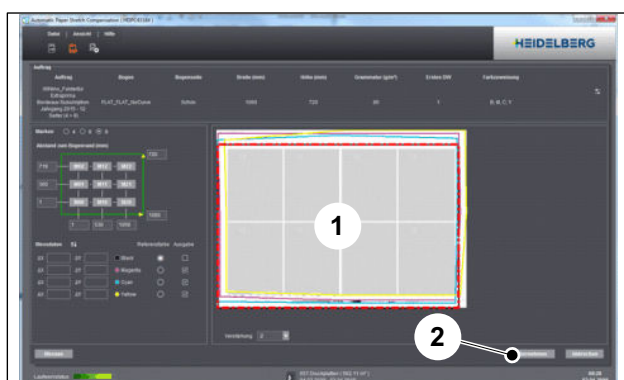

Fig. 21 Display of paper stretch
Paper stretch is calculated and displayed in the panel (Fig. 21/1).
16. Apply the calculation with the *Apply* button (Fig. 21/2).